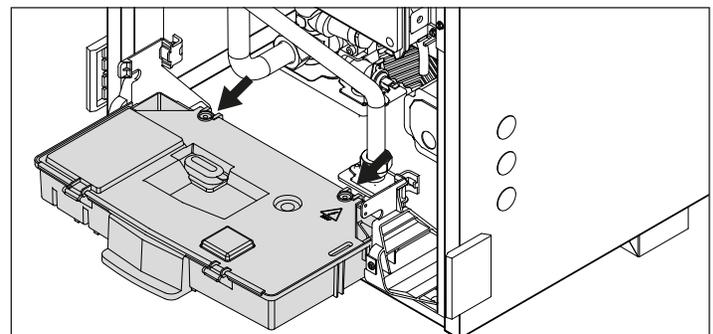

Figure 50 - Disconnecting the Two Clips
5. Disconnect the two clips. See Figure 50.